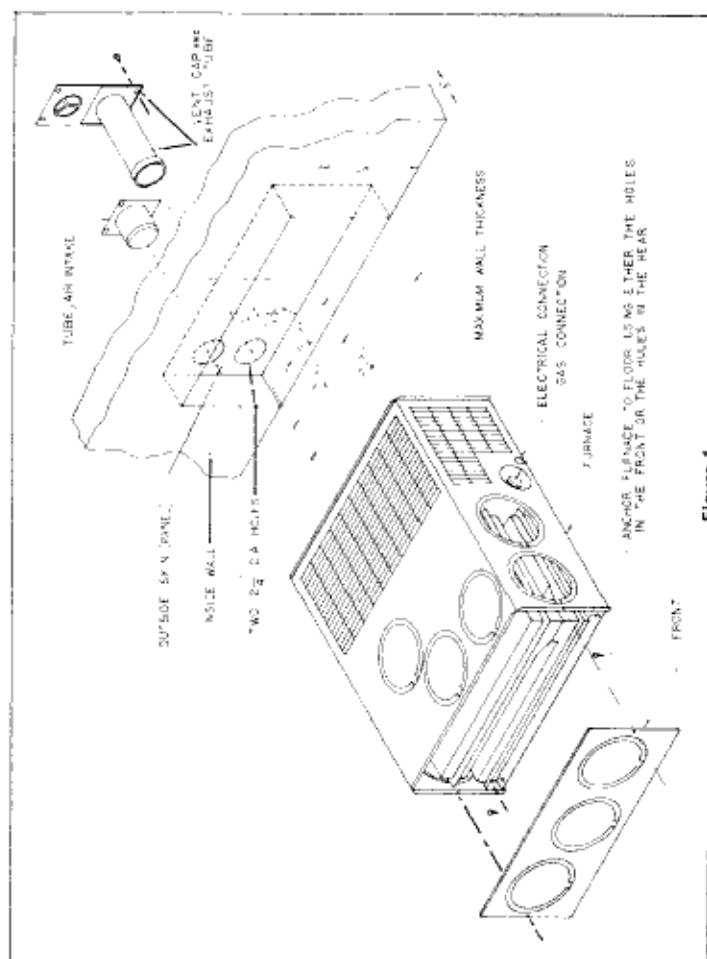
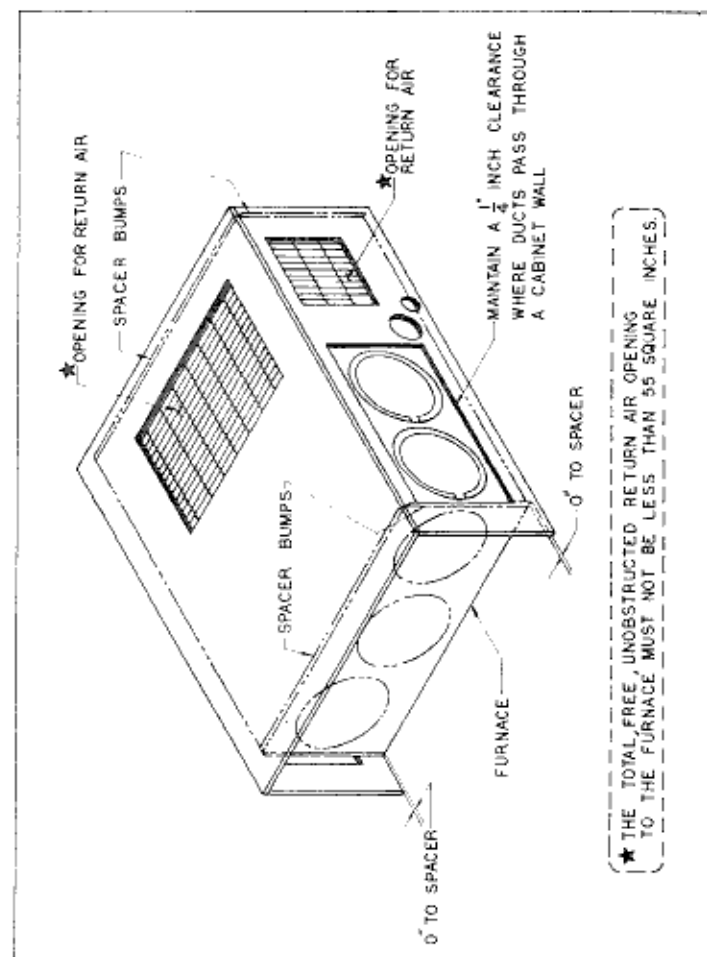
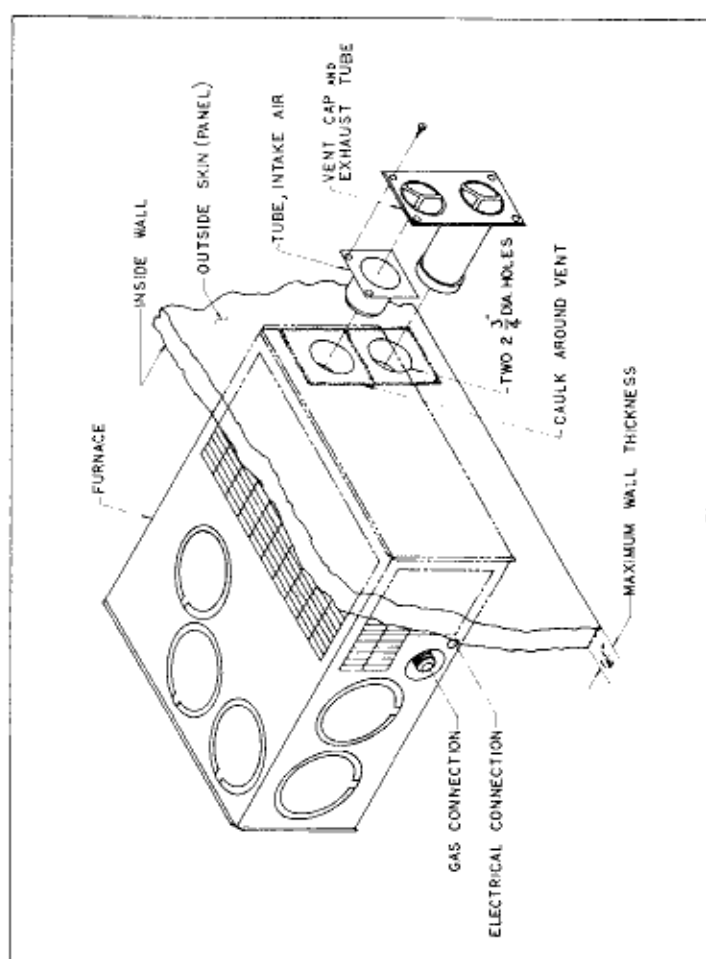

Figure 1
Figure 3
Figure 2
A. INSTALLATION DIRECTLY AGAINST OUTER SKIN OF COACH (See Figure 1)
2. Choose a location for installation out of the way of wires, pipes, etc., which might interfere with the installation. Adhere to the minimum clearances from the cabinet to combustible construction as listed in Table 1. Refer to Figure 3 for illustration of furnace clearances.
4. Cut an opening through the inner wall 17-3/4" x 8". This will allow the rear of the furnace to be installed against the outer skin of the coach. (See Figure 1.)
5. Cut two 2-1/4" diameter holes through the outer skin of the coach, as shown in Figure 1.
6. The furnace is shipped from the factory with two (2) tie down screws - one (1) in the rear of the furnace and one (1) in the front. The purpose of these screws is to secure the furnace to the cabinet. In this type installation, you must remove the screw in the rear of the unit. If not removed prior to mounting the furnace cabinet to the floor, you will be unable to get to the screw, which must be removed to permit furnace to be pulled from the cabinet for service.
8. Fasten furnace to floor of coach using the two holes provided in the front plenum area of furnace cabinet. (See Figure 1.)
B. INSTALLATION DIRECTLY AGAINST INNER WALL OF COACH (See Figure 2.)
4. Locate center lines for exhaust and intake tubes as shown in Figure 1. Cut two 2-3/4" diameter holes through coach wall for exhaust and intake. (See Figure 2.)
5. The furnace is shipped from the factory with two (2) tie down screws - one (1) in the rear of the furnace and one (1) in the front. The purpose of these screws is to secure the furnace to the cabinet. In this type installation, you must remove the screw in the rear of the unit. If not removed prior to mounting the furnace cabinet to the floor, you will be unable to get to the screw, which must be removed to permit furnace to be pulled from the cabinet for service.
7. Fasten furnace to floor of coach using the two holes provided to front plenum area of furnace cabinet. (See Figure 1.)
7. The furnace is shipped from the factory with two (2) tie down screws - one (1) in the rear of the furnace and one (1) in the front. The purpose of these screws is to secure the furnace to the cabinet. In this type installation, you must remove the screw in the front of the unit. If not removed prior to mounting the furnace cabinet to the floor, you will be unable to get to the screw, which must be removed to permit furnace to be pulled from the cabinet for service.
9. Fasten furnace to coach floor using either the holes in the front or the holes in the rear. (See Figure 1.)
COMBUSTIBLE MATERIAL — 1/4" (See Figure 3)
1. Caulk around vent assembly as shown in Figure 2.
2. Insert intake tube over intake tube on furnace. Tube must be installed from the outside of the coach as illustrated in Figure 2. Minimum 1/2" overlap.
3. Insert vent assembly over exhaust tube. Tube must be installed from the outside of the coach as illustrated in Figure 2. Minimum tube overlap of 1-1/4" is required.
4. Attach vent assembly to outer skin of coach with the four (4) screws provided. Do not install vent assembly upside down. The vent cap with exhaust tube attached must be installed as illustrated.
E. Maintain a minimum of 1/4" clearance where ducts pass through any combustible construction, such as coach cabinetry. (See Figure 3.)